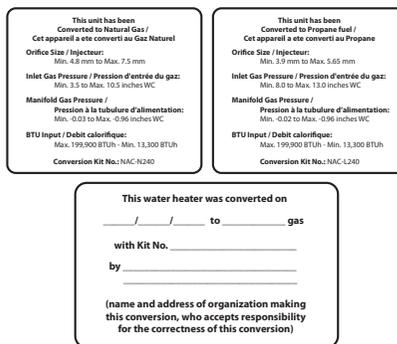

Figure 11. Proper Placement of Gas Conversion Labels
13. Once the CO₂ or offset values have been confirmed, apply the included conversion stickers to show that the appliance has been converted to natural gas. Place this labels adjacent to the rating plate as shown in Figure 11.